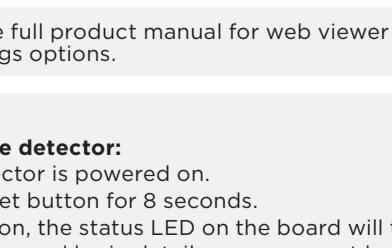

Fig. 4
3. Plug the connector into the RJ45 port. Refer to Fig. 4.